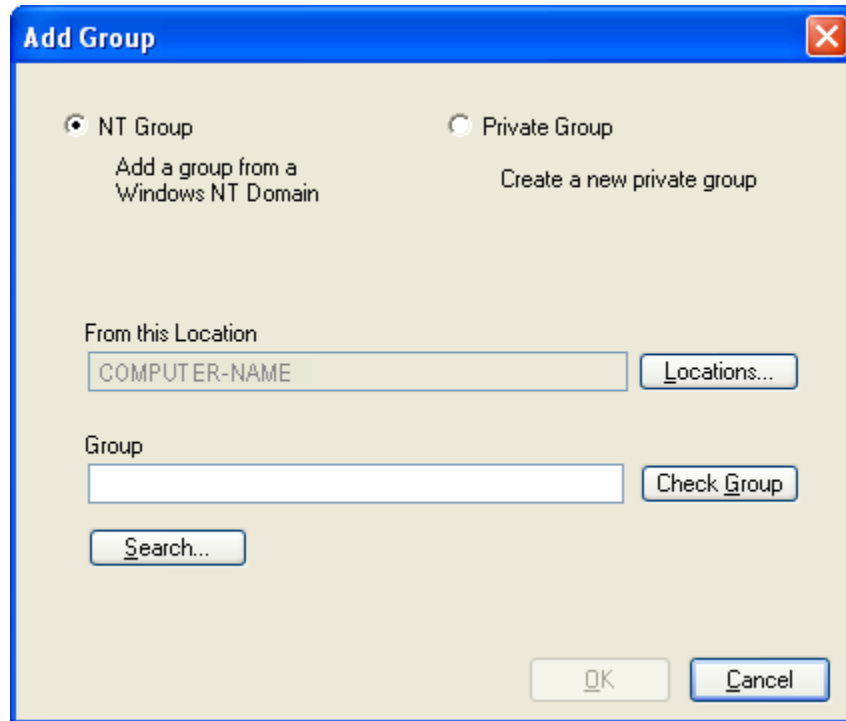

Figure 62 - Add Group Window (NT)
- The **Add Group** window (Figure 62) appears. The **NT Group** option button is selected by default. This will allow the addition of an NT group from a Windows NT Domain.
- The **Add Group** window (Figure 62) appears.